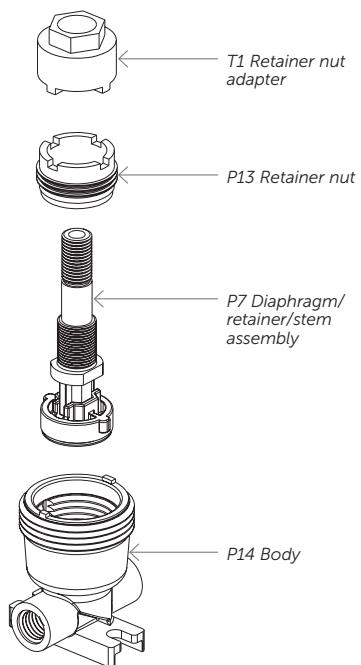

Figure 3.
12. Use the retainer nut adapter (T2) and an adjustable wrench (S2) to remove the retainer nut (P13). See Figure 3.
3. Thread the retainer nut (P13) into the body (P14) until the retainer nut (P13) just contacts the retainer. See Figure 3.